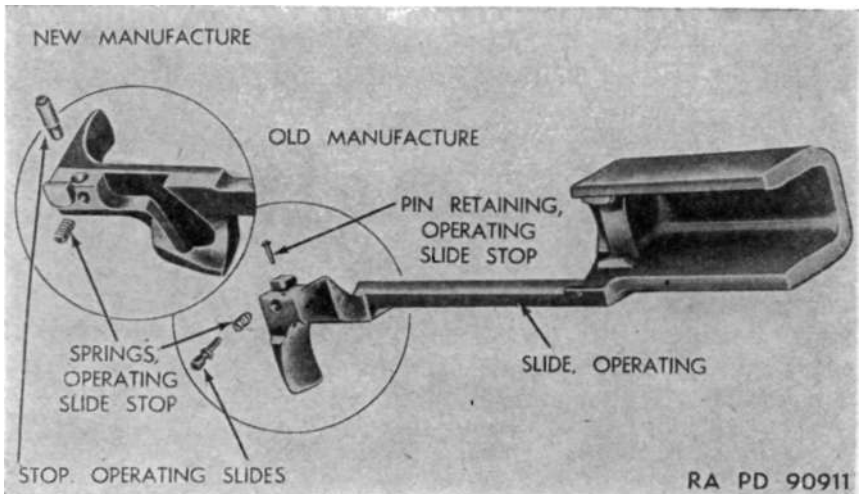
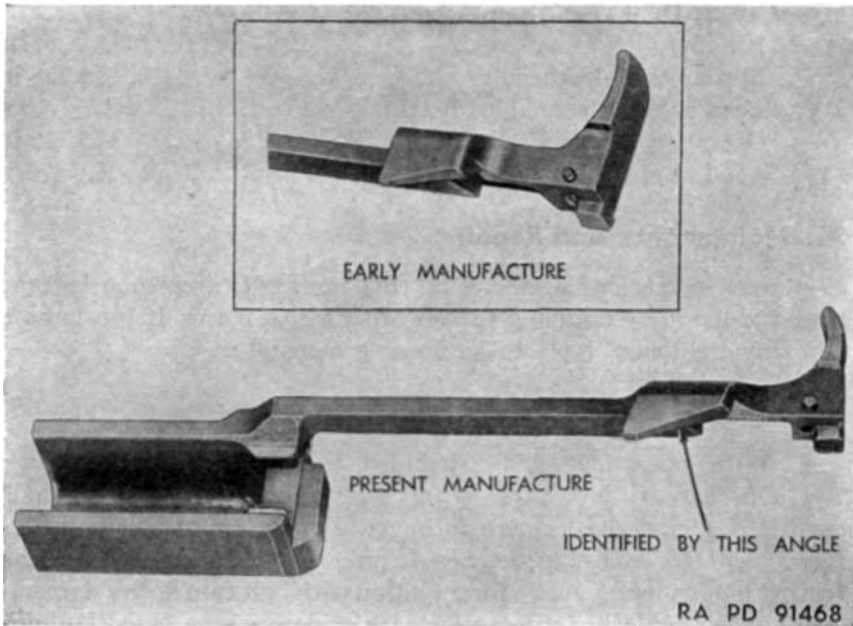

Figure 28. Operating slide group carbines, cal. .30, M1 and M1A1.
Figure 29. Operating slide assembly — early and present manufacture.
a. OPERATING SLIDE (fig. 29) for bent or cracked rear bar, deformation, excessively worn guide lugs, burs, and corrosion. Inspect bolt camming lug recess for wear and burs. Inspect spring guide seating recess in rear face for wear, burs, and foreign matter. Inspect front face of slide where it contacts piston, for levelness. Unevenness at this point may cause malfunction. Check camming surface on M2 and M3 carbines for burs and wear (fig. 29) on right-hand side of slide, where shank of handle joins slide.
b. OPERATING SLIDE STOP. Inspect stop (fig. 28) for wear and burs, looseness in operating slide, and rust. Inspect stop spring for functioning, lack of friction with stop, and for set. Free length of spring (A7312453) is 0.270 (approximately  $\frac{1}{4}$  inch). Inspect spring for foreign matter. Replace all slide stops, springs, and retaining pins with slide stops and springs of late manufacture. (See fig. 29.)